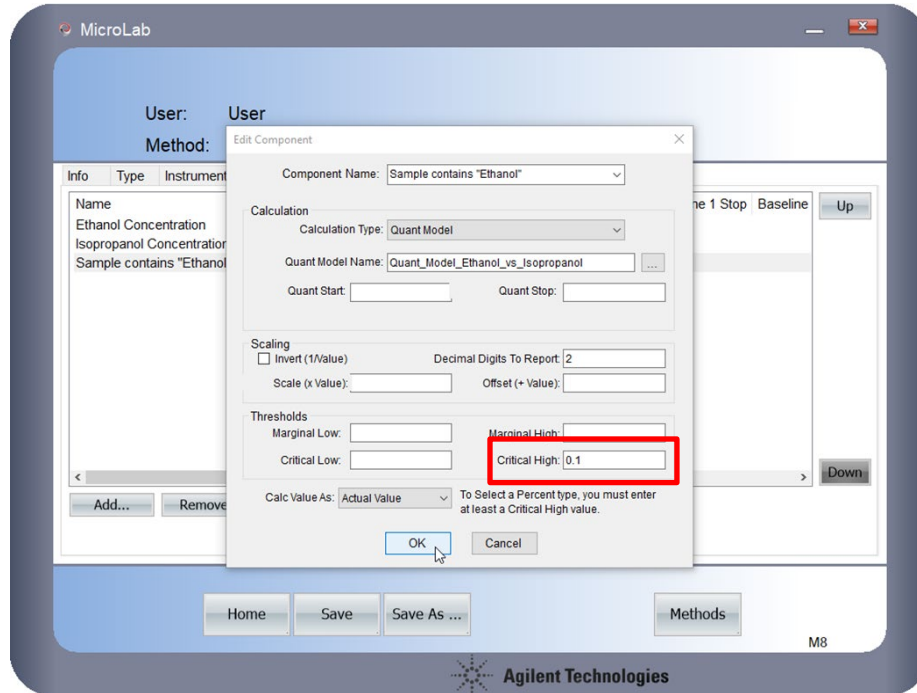

Figure 22. Entering the critical high value for ethanol identification
- 11 Enter that value in the "Critical High" field of the Edit Component screen. We chose 0.1 for this example. See Figure 22.